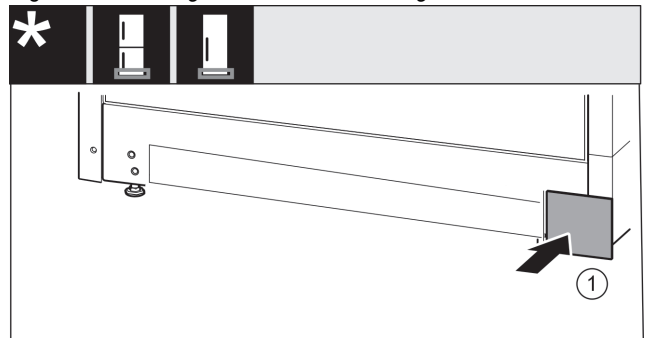

Fig. 19
- ▶ Re-attach the cover Fig. 19 (1) to the other side.